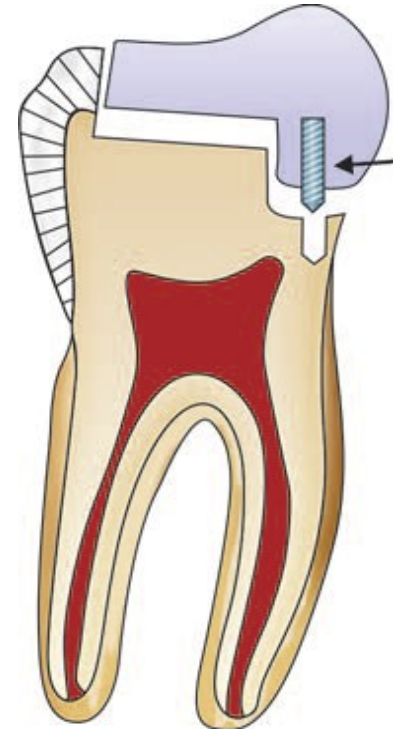

Fig. 5.17: Separation of pin along restoration
- Pin may separate along with restoration because of improper pin tooth joint (**Fig.5.17**).